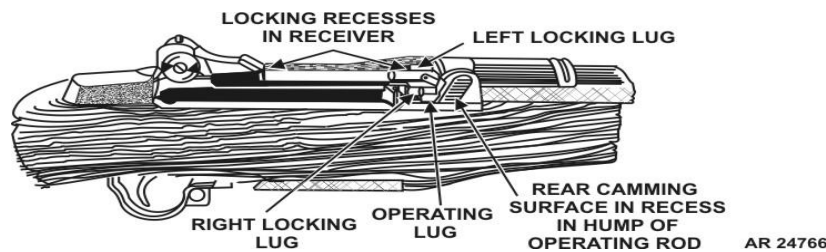

Figure 57. Locking
- 3) **Locking.** Locking is complete when the bolt is fully closed. The bolt is moved into its fully locked position through the camming action of the operating rod which forces the operating lug of the bolt down. This engages the locking lugs on the bolt with their recess in the receiver (fig 57).